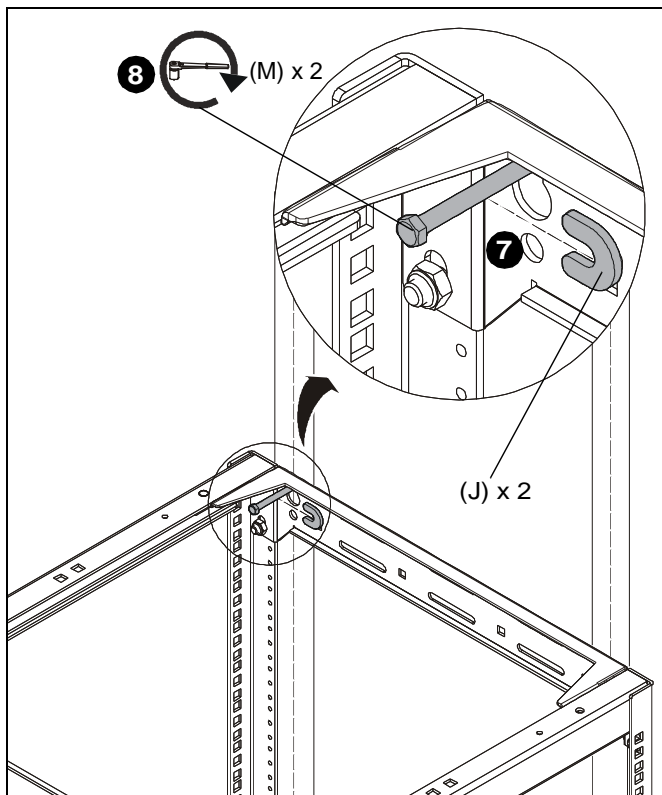

Figure 17
- Slide two "U" washers (J) onto lag bolts (M). (See Figure 17)
- Tighten two lag bolts (M) until "U" washers are pulled firmly against the brace. (See Figure 17)